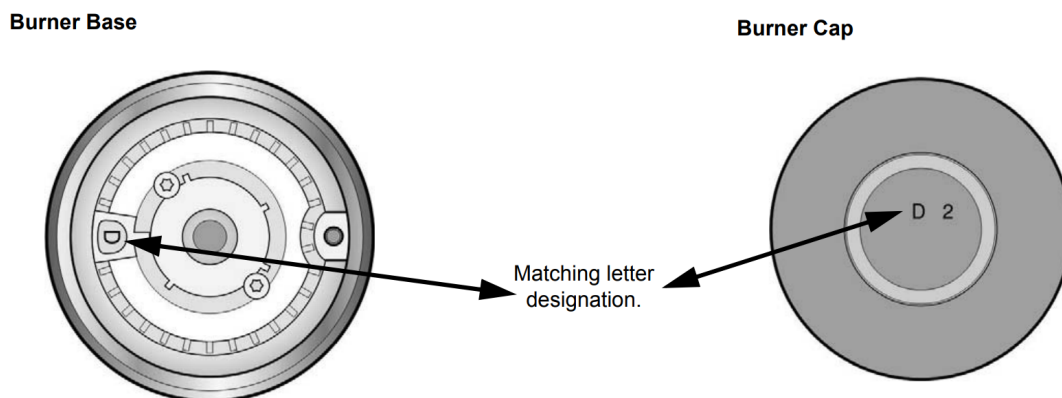

Figure 6: Burners Caps
- Place each burner cap on its correct burner base per its corresponding letter designation. See Figure 6 Burners Caps”.